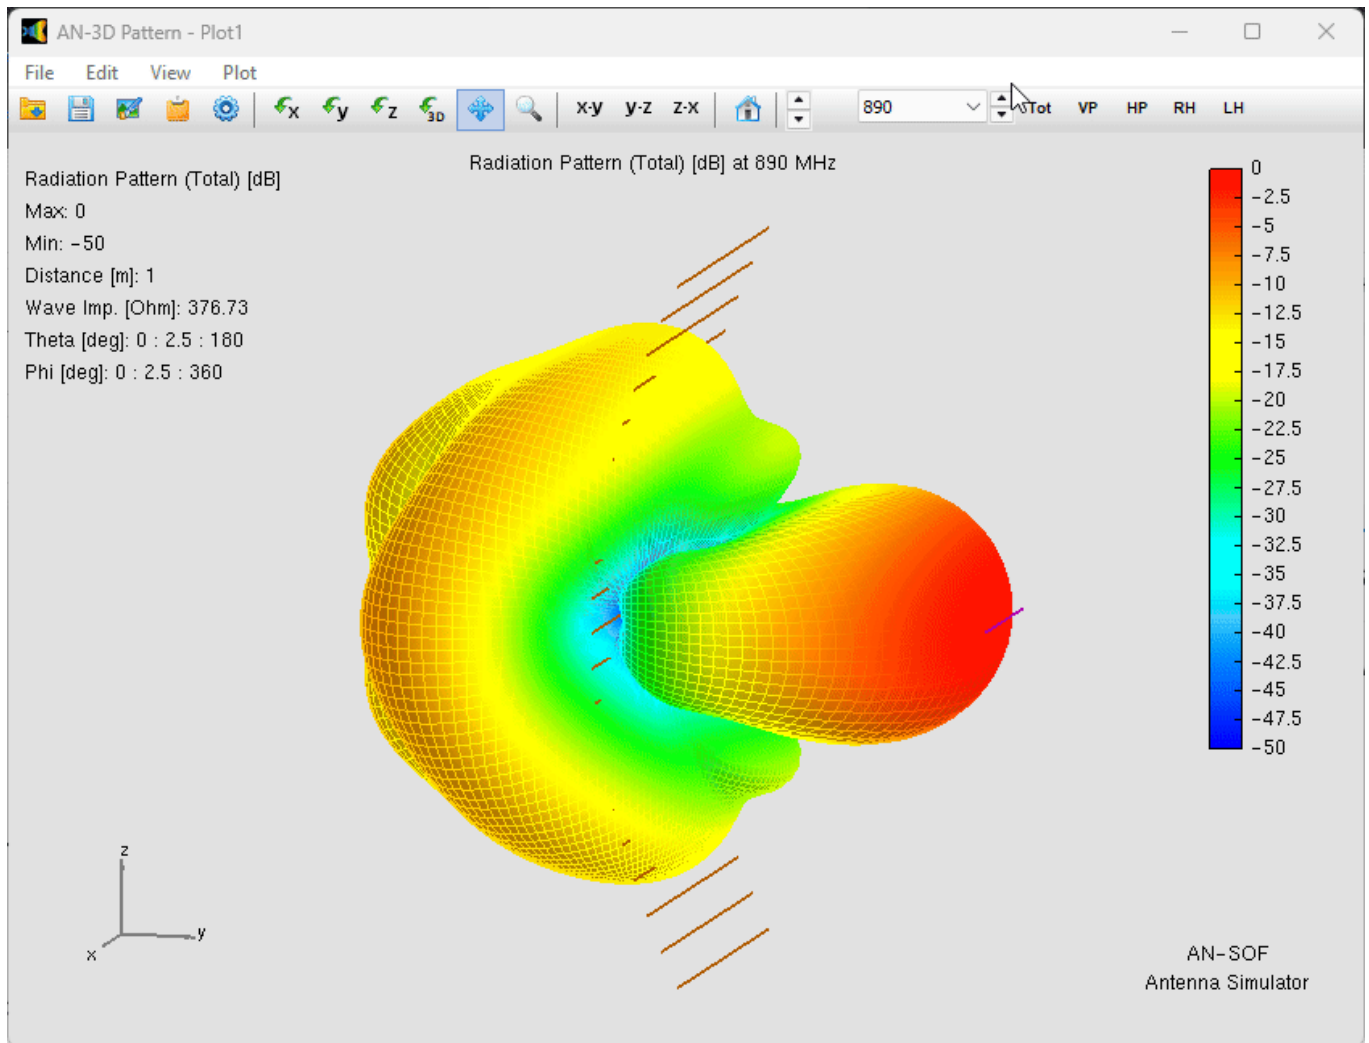

Fig. 4: Animation illustrating the frequency dependence of the radiation pattern in decibels.
3. **Gain and Directivity:** The gain varies from **12 to 10 dBi** across the band. The frequency dependence of the radiation pattern in decibels can be seen in the animation in **Fig. 4**.